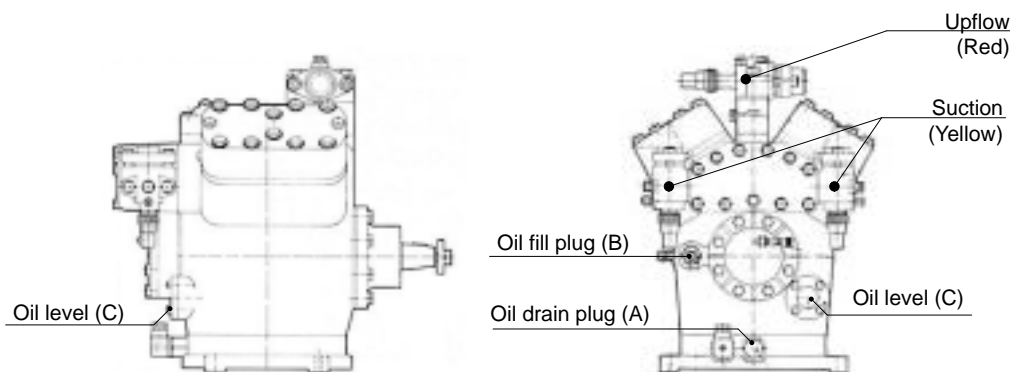

fig.16 – rev01
- loosen the flush nut mark A in fig. 16 and nut B, all the way
- flush compressor oil (fig.16)